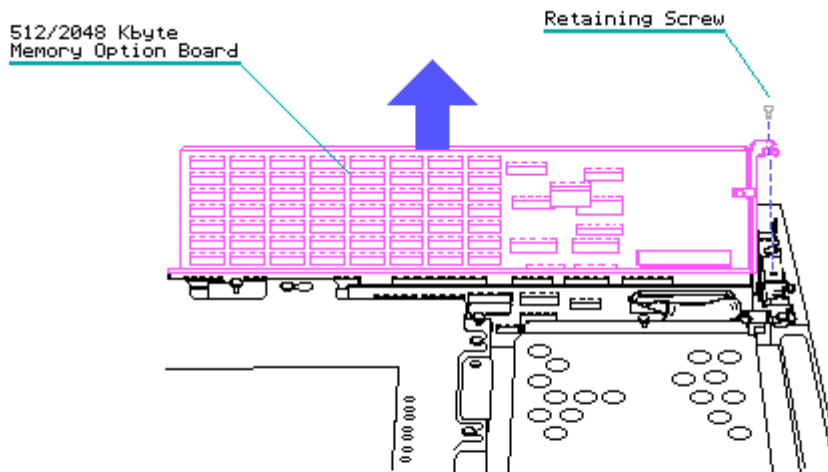

Figure 7-38. Removing the 512/2048 Kbyte Memory Expansion Board or Other Option Boards
4. Carefully lift the board up and out of its connector on the system board (Figure 7-38).